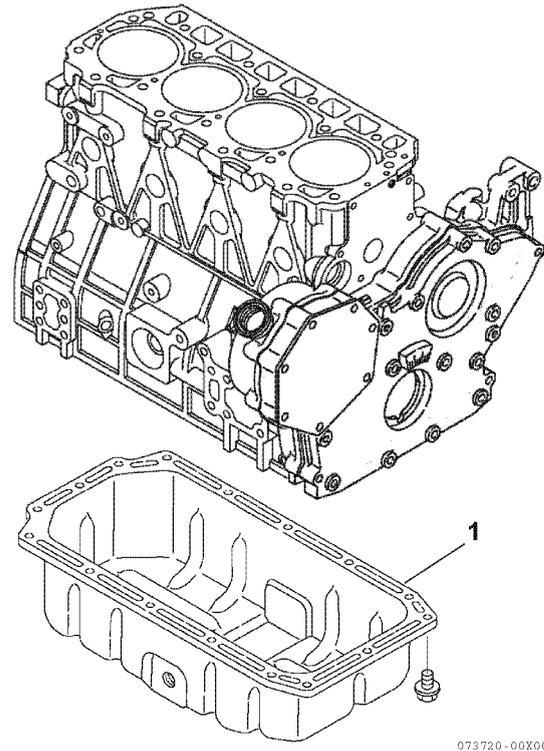

Figure 6-111
2. Apply a continuous bead of ThreeBond Liquid Gasket No. 1207F, YANMAR Part No. 977770-1207F to the mounting surface of the oil pan (1, **Figure 6-111**). Be sure to circle each bolt hole.